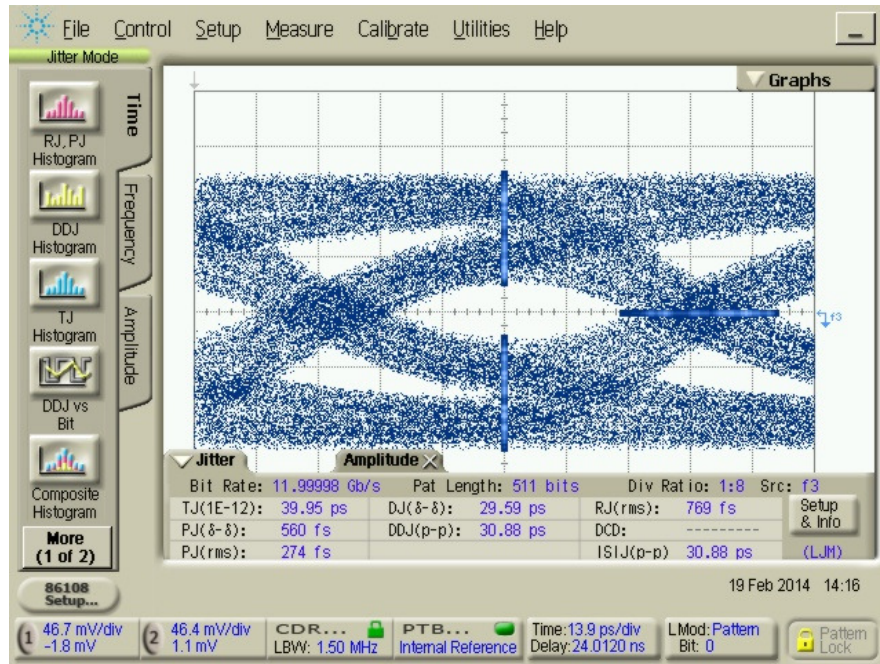
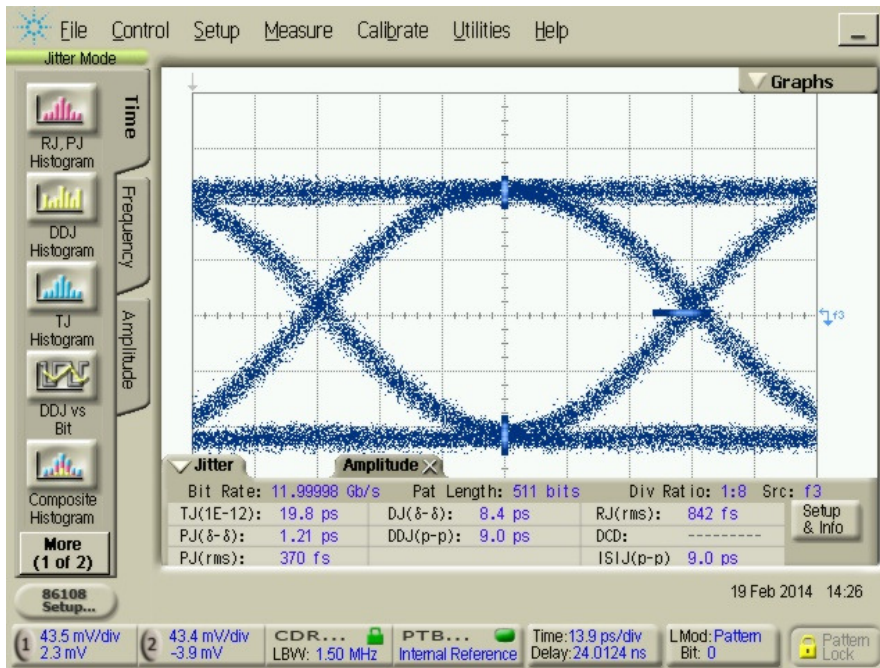
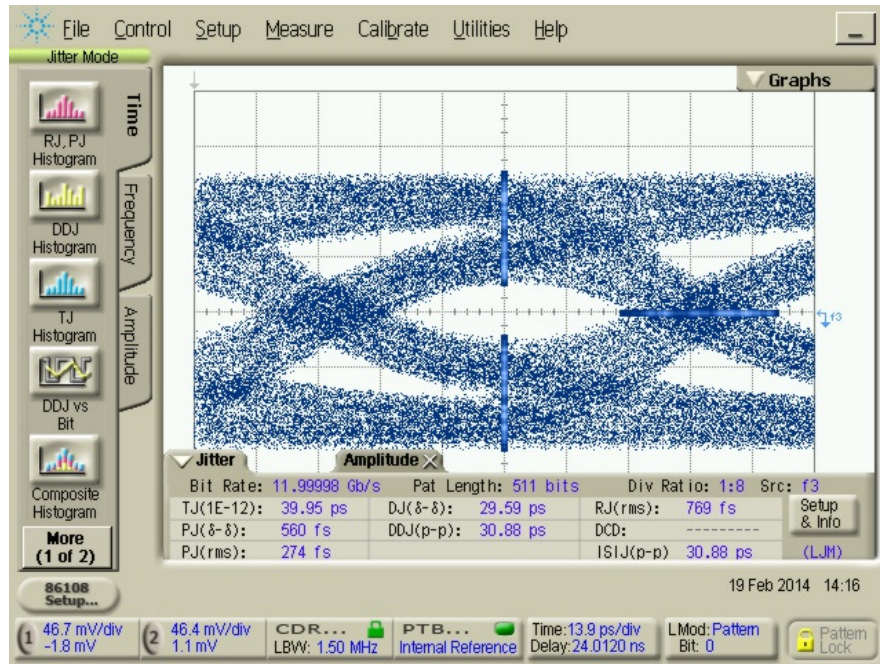

Figure 16. 12.0 Gb/s PRBS 2⁹-1. 10” Load Board Lossy Channel Only, as Indicated by *Point 2* in Figure 15.
Figure 17. 12.0 Gb/s PRBS 2⁹-1. HMC7545ABLP47 EVB with 10” Load Board Lossy Channel at *Input* Using Equalization (EQ), as Indicated by *Point 3* in Figure 15.
Figure 18. 12.0 Gb/s PRBS 2⁹-1. 10” Load Board Lossy Channel Only, as Indicated by Point 4, with Source at Point 3 in Figure 15.
Example EQ and DE results are shown in Figures 16 & 17 and Figures 18 & 19, below.
Figure 16 shows a 12.0 Gb/s signal through a 10” load board (lossy channel emulator) only. Figure 17 shows the output after Equalization (EQ) for a 12.0 Gb/s input signal routed through the EVB with a 10” load board lossy channel at the input.
Figure 18 shows a 12.0 Gb/s input signal through a 10” load board (lossy channel emulator) only. Figure 19 shows the HMC7545AxLP47 output after De-Emphasis (DE) for a 12.0 Gb/s input signal routed through the with a 10” load board lossy channel at the output.